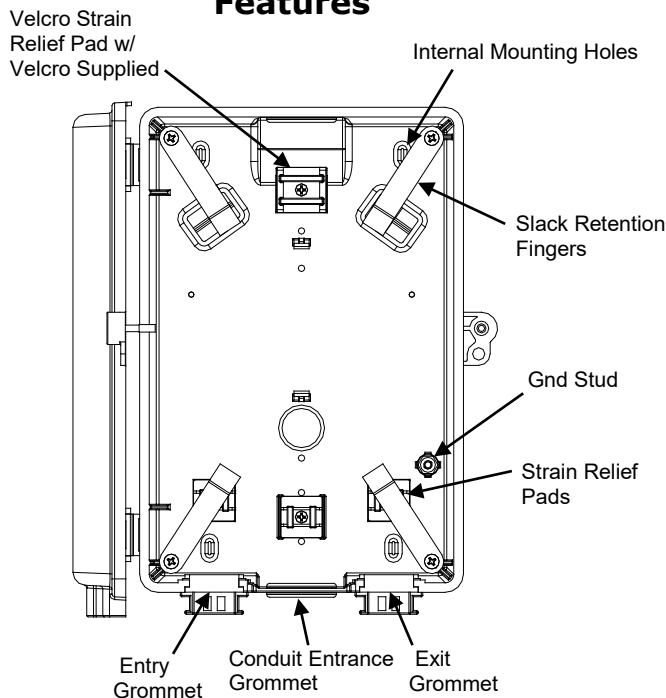

Figure 1
4. The internal mounting holes are covered with a thin film of plastic, which are easily punched out, to maintain the environmental integrity of the enclosure (See Figure 1).